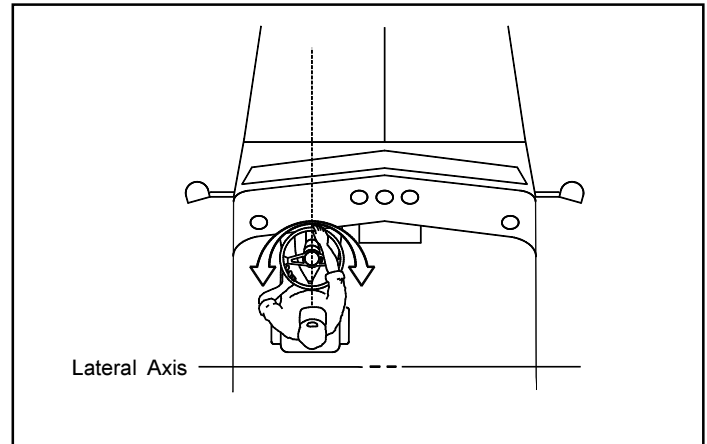

Figure 3 Camera Positioning
5. Verify that the mounting ring is parallel to the lateral axis of the vehicle. This ensures that the mounting ring, when mounted, will face squarely forward. See Figure 3.